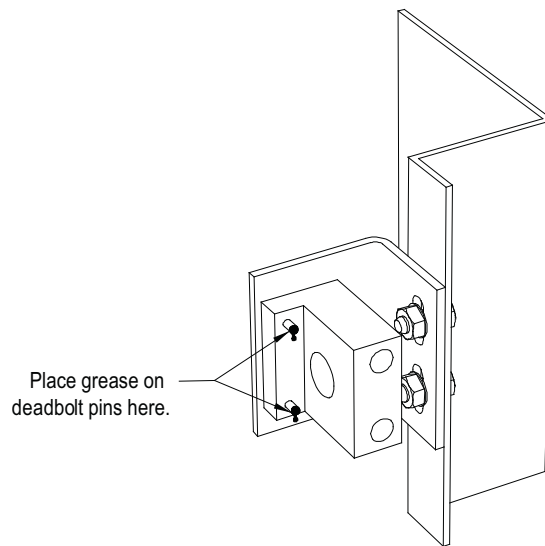

Figure 31 - Deadbolt counterpart mounted to cabinet
3. Open the doors of the cabinet and inspect the key assembly. Place high visibility grease on the pins of the deadbolt counterpart. The factory recommends using yellow torque sealant, however if it is unavailable almost any grease will do. (See Figure 31)